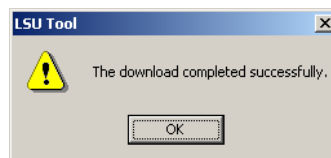

Figure 167: Successful Firmware Upgrade.
3. If the upgrade is successful, the following window appears (Figure 167).